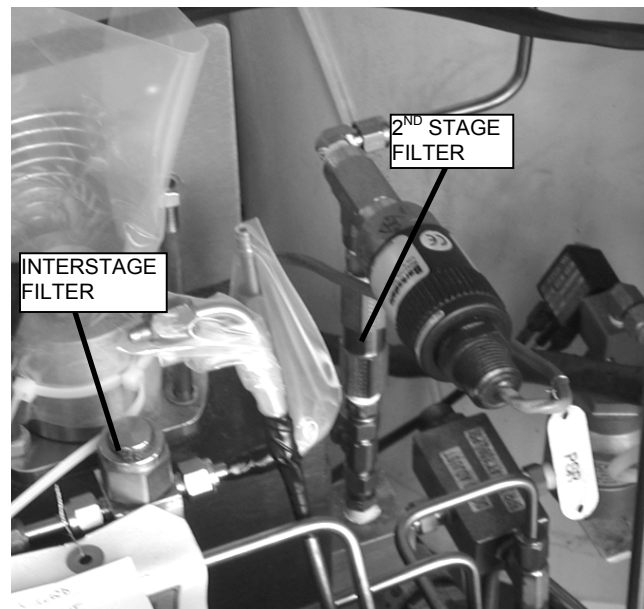

Figure 21. Location of Booster Compressor Filters.
There are two filters in the booster compressor piping. One is located between the first stage discharge and the second stage inlet (interstage filter). The other one is located after the second stage cooling coil (second stage filter). Refer to Figure 21. The filters should be cleaned every 2000 hours of compressor operation. To clean the filters, use the following steps.
- f. Determine the peak pressure on the scroll compressor discharge by viewing PI-2 (see WP 005 00, Figure 21) and comparing it with the maximum DC voltage on the DVM.